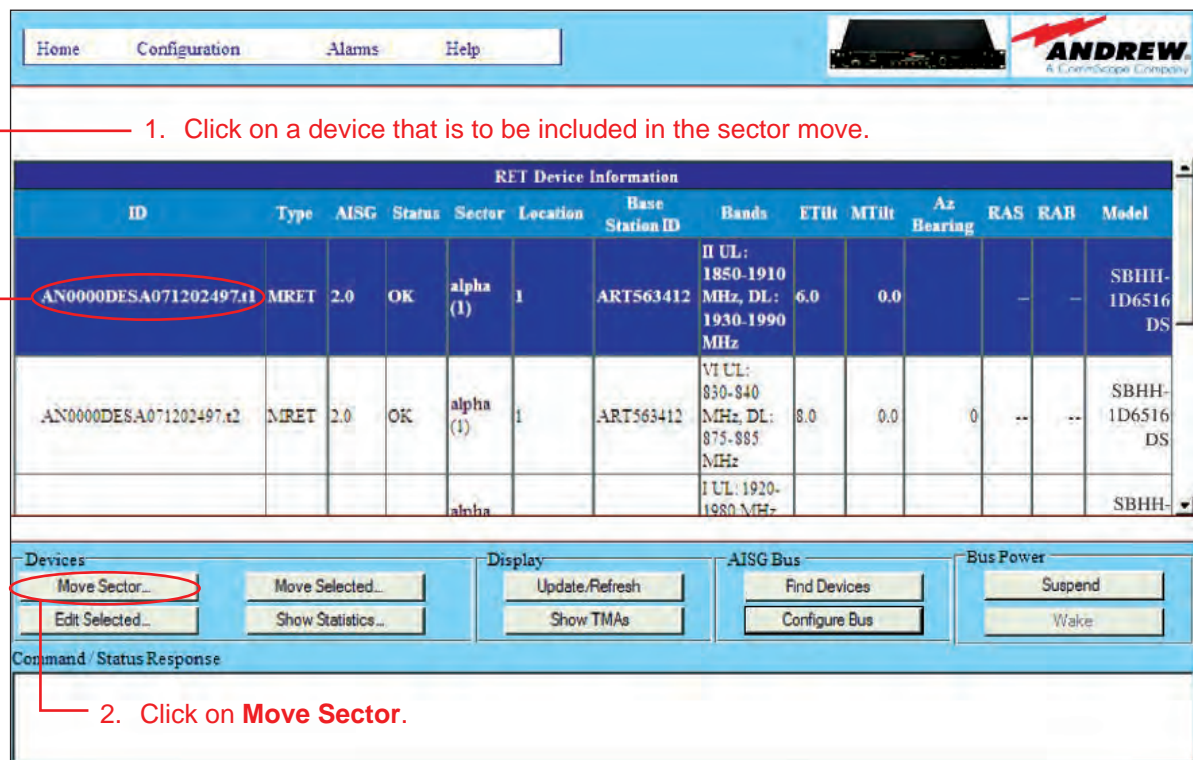

Figure 17-1. Selecting A Device That Is To Be Included In The Sector Move.
1. Select a device from the controller's main interface screen that is to be included in the sector move (Figure 17-1).
2. Click on **Move Sector** (Figure 17-1).